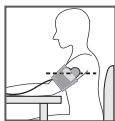

Fig.1
1. Sit beside the table and let the table support your arm as you take the measurement. Make sure that the cuff on the upper arm no cross, and is at approximately the same level as the heart, make sure that your feet lie on the ground and no cross. as in Fig.1;